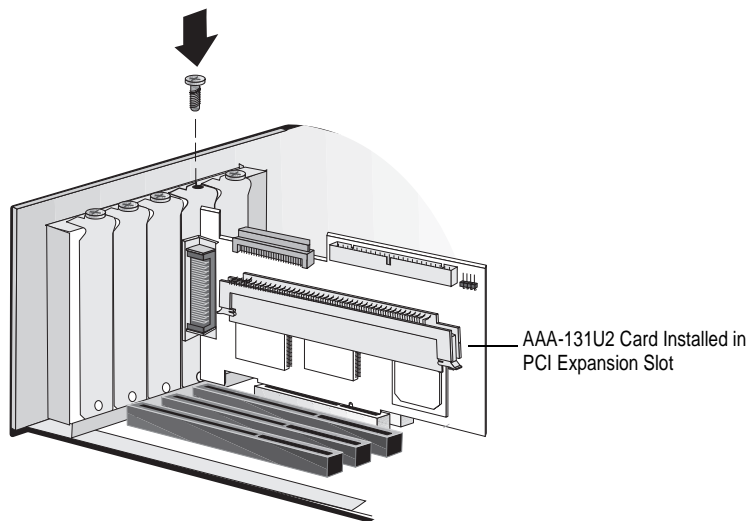

Figure 2-4. Installing an AAA-131U2 in PCI Expansion Slot
- 4 Insert the AAA-131U2/133U2 in the PCI expansion slot; press down firmly until it clicks into place, then replace the slot cover screw. (Figure 2-4 shows the installation of an AAA-131U2 card.)